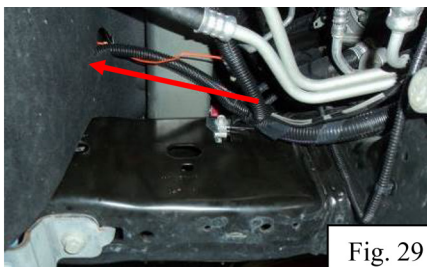

Fig. 29
- Route the orange wire through the hole in the rubber air deflector towards the coolant pump (Fig. 29). Cut the power wire (white and green wire) approximately 3" from the pump connector (Fig. 30). Insert the two ends of the power wire from the coolant pump and the orange wire into the clear 3M Scotchlock 3-way splice connector supplied (Fig. 31). Note: It is not necessary to strip the wires, and the order of the wires inserted does not matter. Once the button is depressed, the connector is difficult to reuse. Be sure the wires are inserted completely. Using slip joint pliers (or similar tool) press the button down into the connector until the button locks. The connector is filled with EG-3 sealant. Just wipe off any excess with a rag. You may wrap the connection with electrical tape, although it is not necessary. Zip tie the wires and connector to the wire loom.